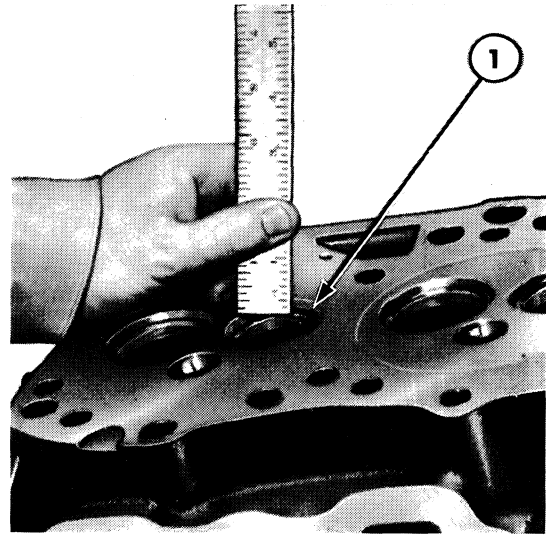
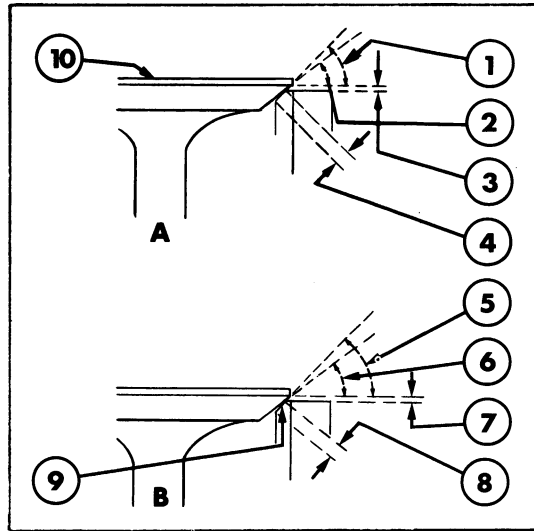
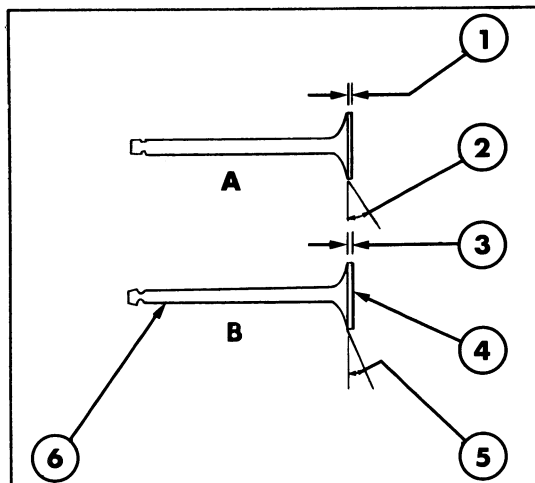

Figure 15
Figure 17
Figure 20
6. Measure the width of the valve seats, Figure 15, and reface the seats if they do not meet the specifications shown in Figure 17.
NOTE: Reface the valve seat and face at the same time so the finished measurements correspond to Figure 17.
The critical inspection points of the valves are shown in Figure 20. Inspect the valve face and the edge of the valve head for pits, grooves, scores or other defects. Inspect the stem for a bent condition and the end of the stem for grooves or scores. Check the valve head for cracks, erosion, warpage or burn. Minor defects such as small pits or grooves, can be removed.
The valve refacing operation should be closely co-ordinated with the valve seat refacing operating so the finished angle of the valve is $\frac{1}{2}^\circ$ less than the valve seat to provide an interference angle for better seating, Figure 17. Adjust the refacing tool to obtain a face angle of $44\frac{1}{2}^\circ$ or $29\frac{1}{2}^\circ$, Figure 20.